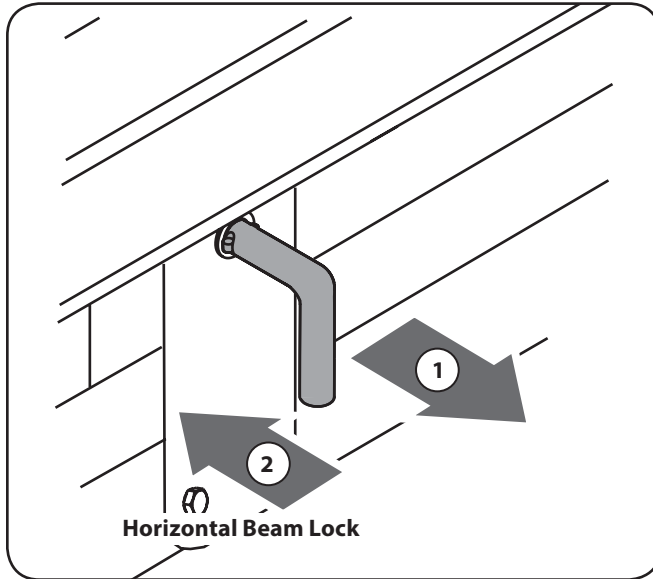

Figure 5-3
- b. The horizontal beam lock is self-locking. The spring loaded lock will snap into place when the beam is lowered into position. See Figure 5-3.